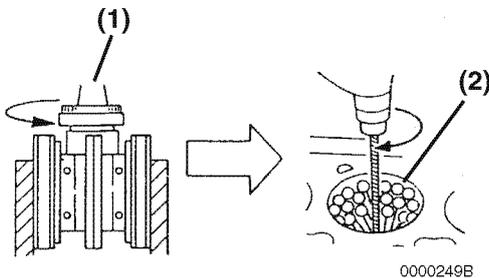

Figure 6-82
2. **Honing** - Minor cylinder imperfections may be corrected by using a rigid cylinder hone (**Figure 6-82, (1)**). Be sure not to exceed the maximum cylinder bore specification.
Deglazing - A used cylinder that did not require boring or honing, should always be deglazed with a ball hone (**Figure 6-82, (2)**) before installing new piston rings. This will properly prepare the cylinder surface to allow new piston rings to seat properly.
- Use a 300-grit hone at 300 - 1200 rpm (**Figure 6-82**).